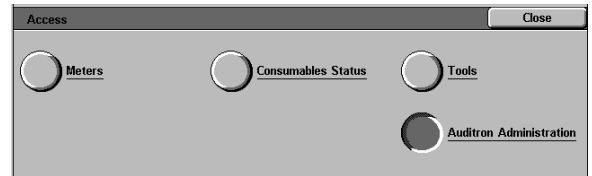

Figure 11: Auditron Administration button
- 2 Touch the **Auditron Administration** button, Figure 11.